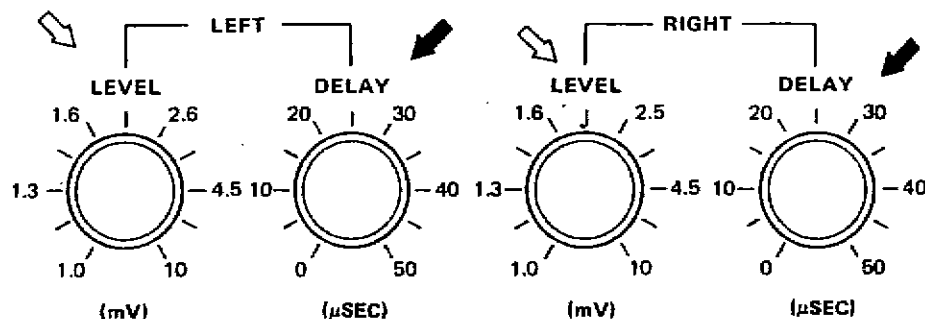

Fig. 5
(2) Use the adjustment record provided for separation adjustment. Play the section of the record which contains a lower frequency signal (600Hz) and turn the LEFT and RIGHT LEVEL controls (shown in Fig. 5) to minimize the sound volume from the back channels. To make this adjustment easier, adjust the amplifier's volume or balance controls beforehand, so that only the corresponding back channel can be heard. The LEVEL control scale values indicate the output level of a cartridge when a record cut with a horizontal amplitude velocity of 5cm/sec (JIS standard) is being played. Use these values as a rough reference if you know the specifications of your cartridge. For instance, JVC's X-1 CD-4 cartridge has a rated output voltage of 2.7mV/
5cm/sec. When this cartridge is used, the point at which the corresponding back channel volume reaches its minimum will be slightly to the left of "2.5" position on the LEVEL control. However, some cartridge manufacturers use different standards to express the cartridge output voltage and it is also probable that the indicated data is different from the actual value. The scale values should, therefore, be considered as just a rough reference. After completing the separation adjustment, play the section of the test record containing a higher frequency signal (4kHz) and adjust the LEFT and RIGHT DELAY controls in the same way as above to minimize the back channel sound volume. (Fig. 5)